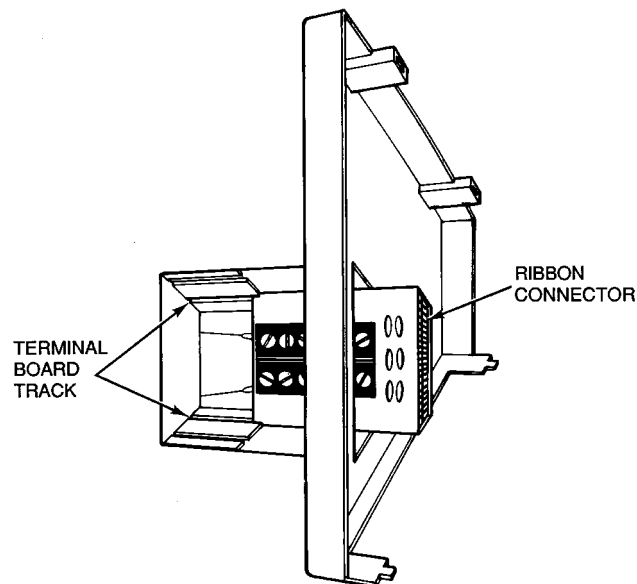

Fig. 6 — Terminal Board Installation
3. Align the terminal board with the right track in the backplate housing. See Fig. 6. The ribbon strip side of the terminal block should be away from the wall. Push the terminal block into the track until about $\frac{1}{2}$ -in. is left protruding.